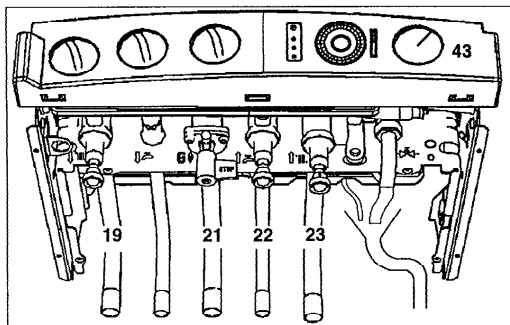

Fig. 15
- Open flow and return valves on the boiler.(19 and 23 fig. 15)
- Turn on the gas supply and boiler gas tap (21 fig. 15).